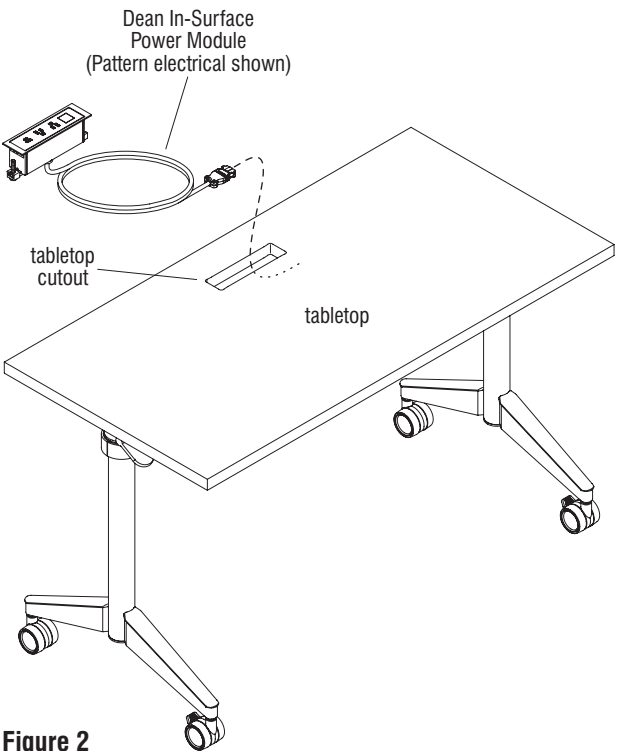

Figure 2
1. With the assembled table in the upright position, orient the Dean In-Surface power module as shown and route the connector end (or plug end) down through the tabletop cutout in the tabletop. Press the module down firmly into the cutout (Figure 2 & Detail C).